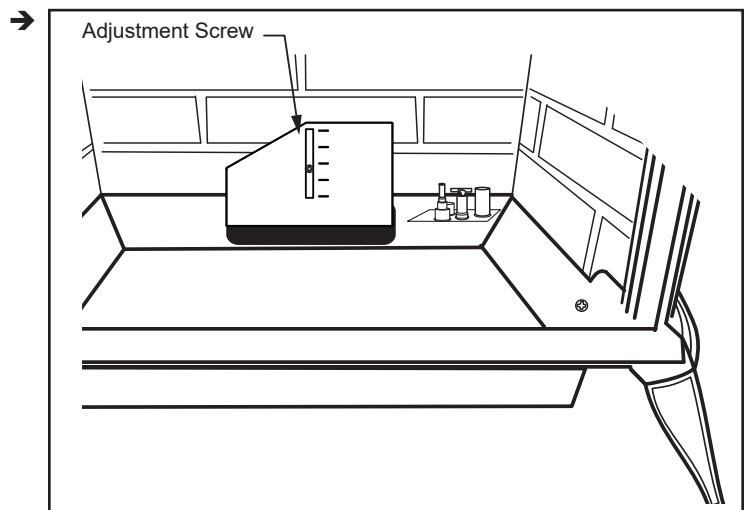

Figure 2.9 - Loosen screw to adjust restrictor plate.
The Stardance stove is shipped with a restrictor plate in the Parts Bag. Adjustments can be made by loosening the adjustment screw to allow the restrictor plate to slide up or down, Figure 2.9. A guide for usage is shown in Figure 2.10.
- Install restrictor plate as shown in Figure 2.9 with cut out on left side. Secure with adjustment screw.
- Measure from center of screw to top edge of diverter (Figure 2.9) to adjust plate according to guidelines in Figure 2.10.